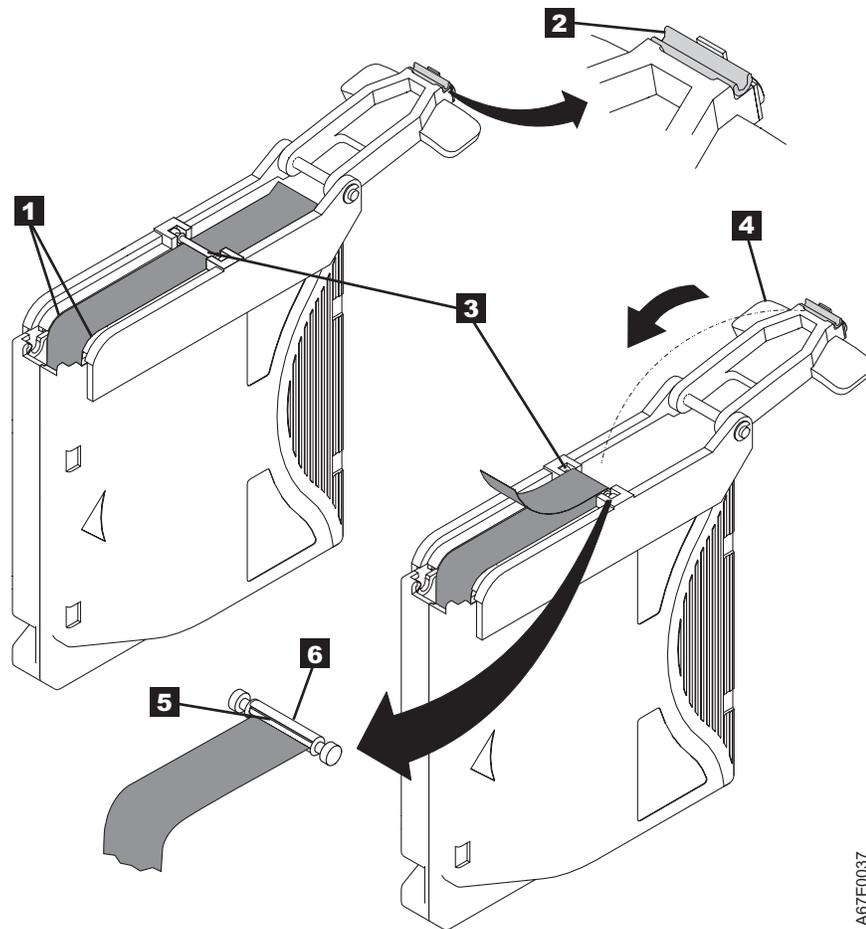

Figure 15. Attaching the leader pin to the tape
7. Position the tape in the alignment groove of the leader pin attach tool (see **1** in Figure 15).
8. Place a new C-clip into the retention groove **2** (Figure 15) on the leader pin attachment tool and make sure that the clip's open side faces up.
9. Place the leader pin (from step 6 on page 24) into the cavity **3** (Figure 15) of the leader pin attach tool.
10. Fold the tape over the leader pin and hold it with your fingers (see Figure 15).